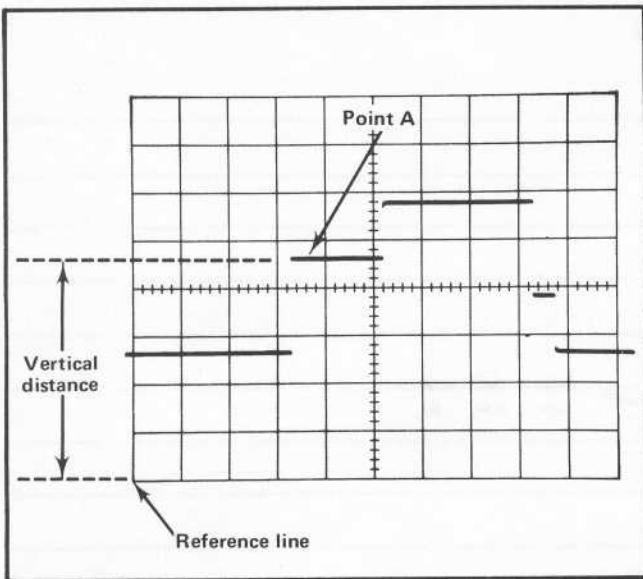

Fig. 2-2. Measuring instantaneous voltage with respect to same reference.
6. Measure the distance in divisions between the reference line and the point on the waveform at which the DC level is to be measured. For example, in Fig. 2-2 the measurement is between the reference line and point A.
**EXAMPLE:** Assume the vertical distance measured is 3.6 divisions (see Fig. 2-2) and the waveform is above the reference line using a 10X probe with a VOLTS/DIV switch setting of 0.5 V.